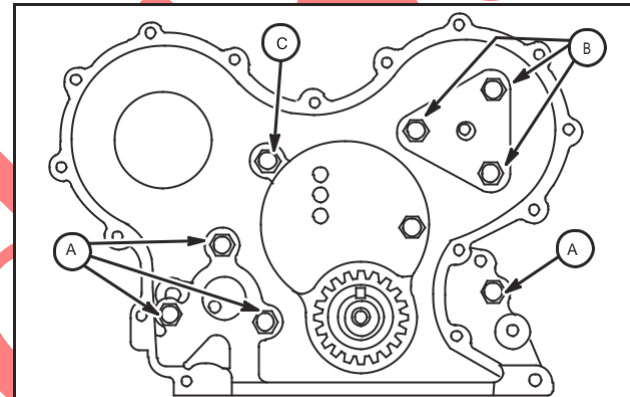

Fig. 16 – Installing Timing Gear Case
2. Install timing gear case with new gasket. Install camshaft retainer, Fig. 16.